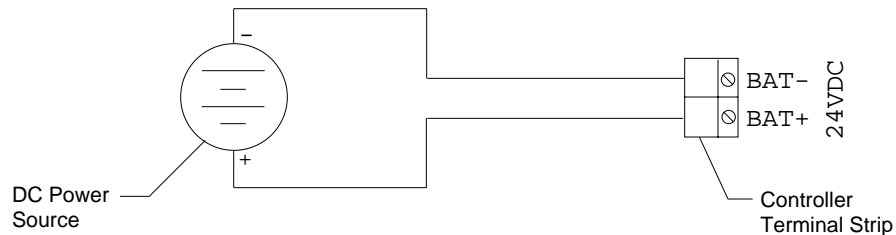

Figure 7: DC Power Wiring
4. Connect the DC line to the controller terminal strip as shown in Figure 7.